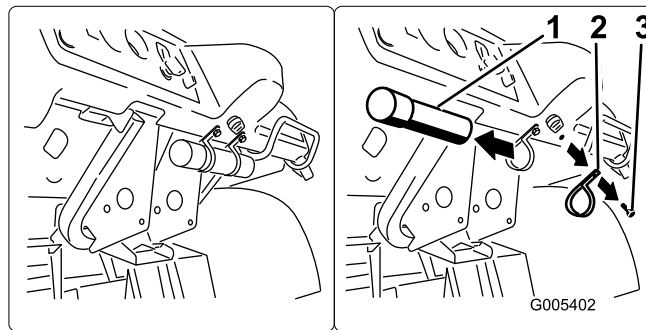

Figure 9
1. Remove the *Operator's Manual* tube from the dash. Remove the fasteners securing the R-clamps and tube to the dash (Figure 9). Retain all parts.